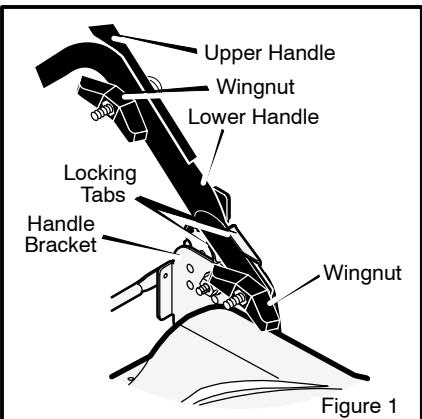

Figure 1
3. Raise the **lower handle**. Make sure the **lower handle** is between the **locking tabs** (Figure 1). Tighten the **wingnuts**.